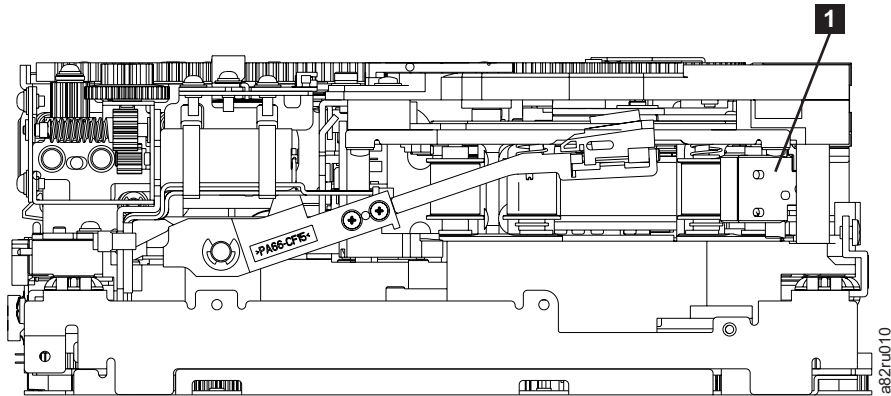

Figure 8-90. Leader Block Assembly (LBA)
10. Rotate the threader motor worm gear (**4** in Figure 8-89 on page 8-93) to turn the threader mechanism gear (**6** in Figure 8-89 on page 8-93) counterclockwise. This moves the LBA out of the cartridge and past the read/write head. Stop this rotation when the LBA is near the tape guide roller nearest the rear of the drive shown as **1** Figure 8-90.